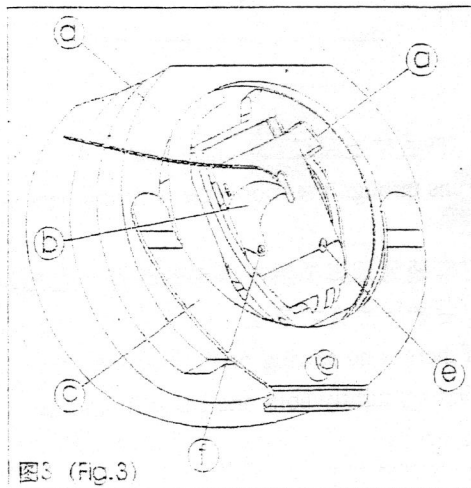
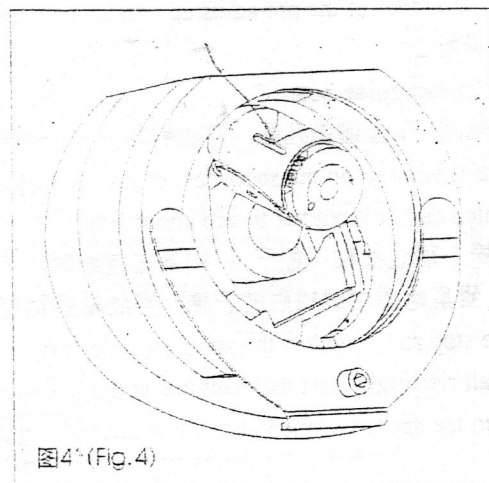

图3 (Fig.3)
图4 (Fig.4)
##### 3.2 线轴更换(图3、图4)
##### 3.2 Spool replacement (see in figure 3 and figure 4)
如图 4:
- (4) Insert the full spool to the outside hub. And when loop line of spool is pulled up, "the rotation direction of spool shall be consistency with that of shuttle head", as seen in figure 4.
- (5) 将线轴的线拉穿过弹簧 b 底下的缺口, 并超过 8cm
### 3.3 线轴线张力的调整 (图 3)
#### 3.3 Tension adjustment of the thread on spool (seen in figure 3)